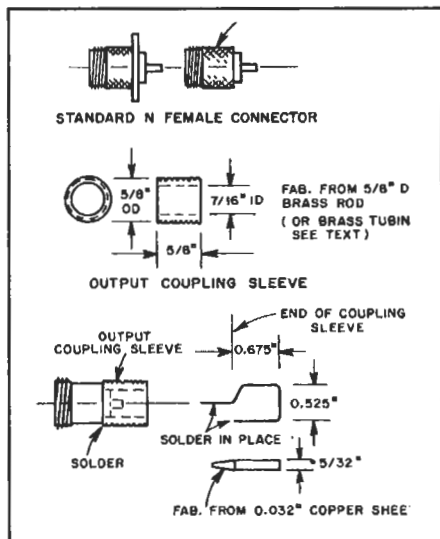

Fig 7—Output-probe/connector assembly details.
- J2 — Modified Type-N connector. See text and Fig. 7.
- L2 — Output-coupling loop. Part of output-connector assembly. See text and Fig. 7.
A standard Type-N chassis-mount female connector (silver plated) is used for the output probe/connector. See Fig. 7. First, remove the flange with a hacksaw and file flush with the connector body. Next, make the output-coupling sleeve that is right for your application (threaded or unthreaded, depending on how you fabricated the ring). The sleeve will be the same length in either case. The output-coupling loop is fashioned from a piece of 0.032-inch-thick copper sheet that is 3/32 inches wide. Bend it to the dimensions shown in Fig. 7. We will solder the output connector together later.
While the grid assembly is cooling, assemble the output connector. See Fig. 7. Place the modified Type-N female connector, threaded end down, on the soldering fixture. Apply flux to the top and install the output coupling sleeve. Allow both parts to heat before applying solder. Carefully remove the soldered output connector from the fixture. When it has cooled, solder one end of the loop to the center pin of the N connector and the other to the output coupling sleeve.